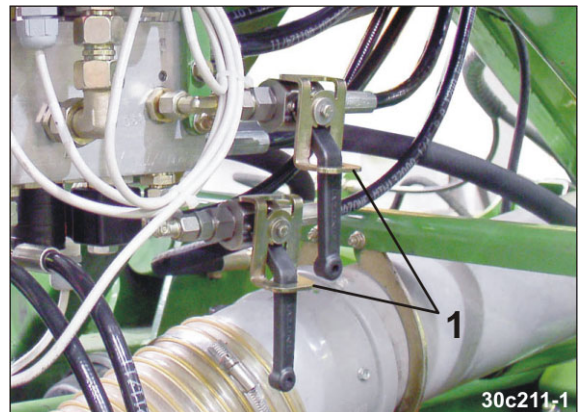

Fig. 250
16. Equip each hydraulic stop-cock with an anti-rotation lock (Fig. 250/1).